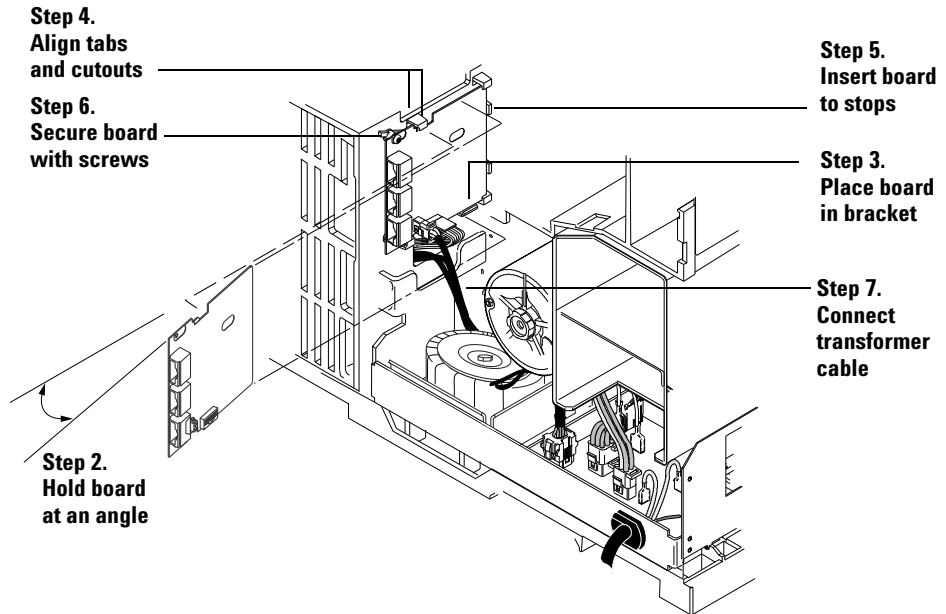
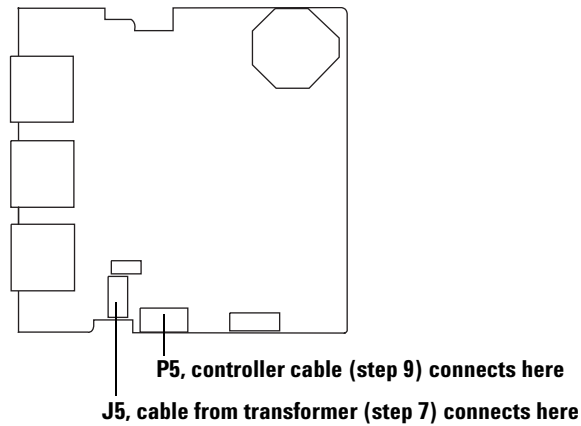
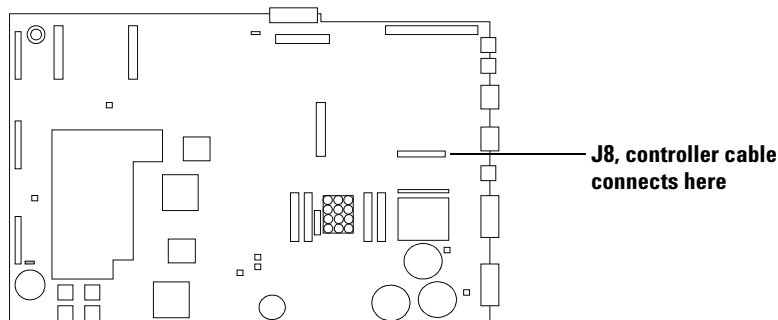

Figure 33 Installing the ALS interface board
Figure 34 ALS interface connectors
Figure 36 GC main board
- 2 Hold the board upright and slightly angled (Figure 33).
- 6 Secure the board to the chassis using two screws. The board should not be stressed or bowed against the locking tab (Figure 33).
- 7 Locate the 2-wire cable leading from the transformer and connect it to the ALS Interface board at J5. (Figure 33 and Figure 34).
- 9 Connect the Controller PCB Cable, part no. G2612-60510, to the main board at J8 and to the ALS Interface board at P5. Route the cable through the cutout in the main board (Figure 34 and Figure 36).